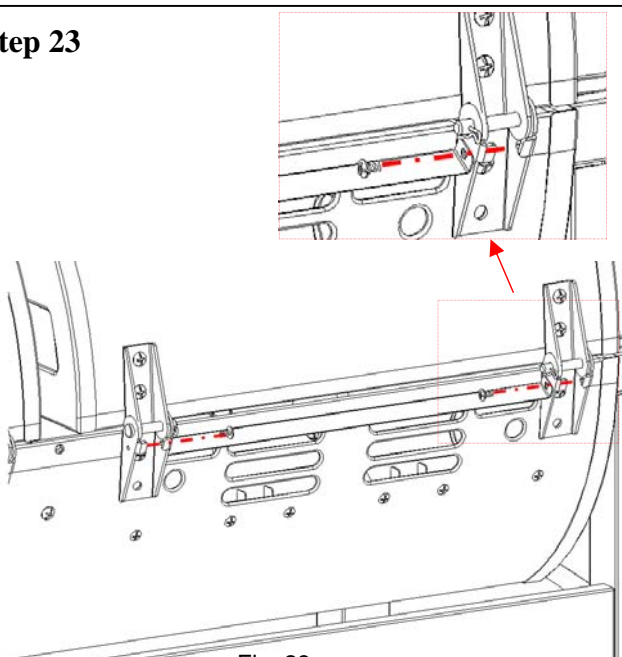

Fig. 23
Procedure: Attach the Windscreen to the Hinge Assemblies installed on the Gas Cabinet using (2) M4x8 tapping screws as shown as Fig. 23.